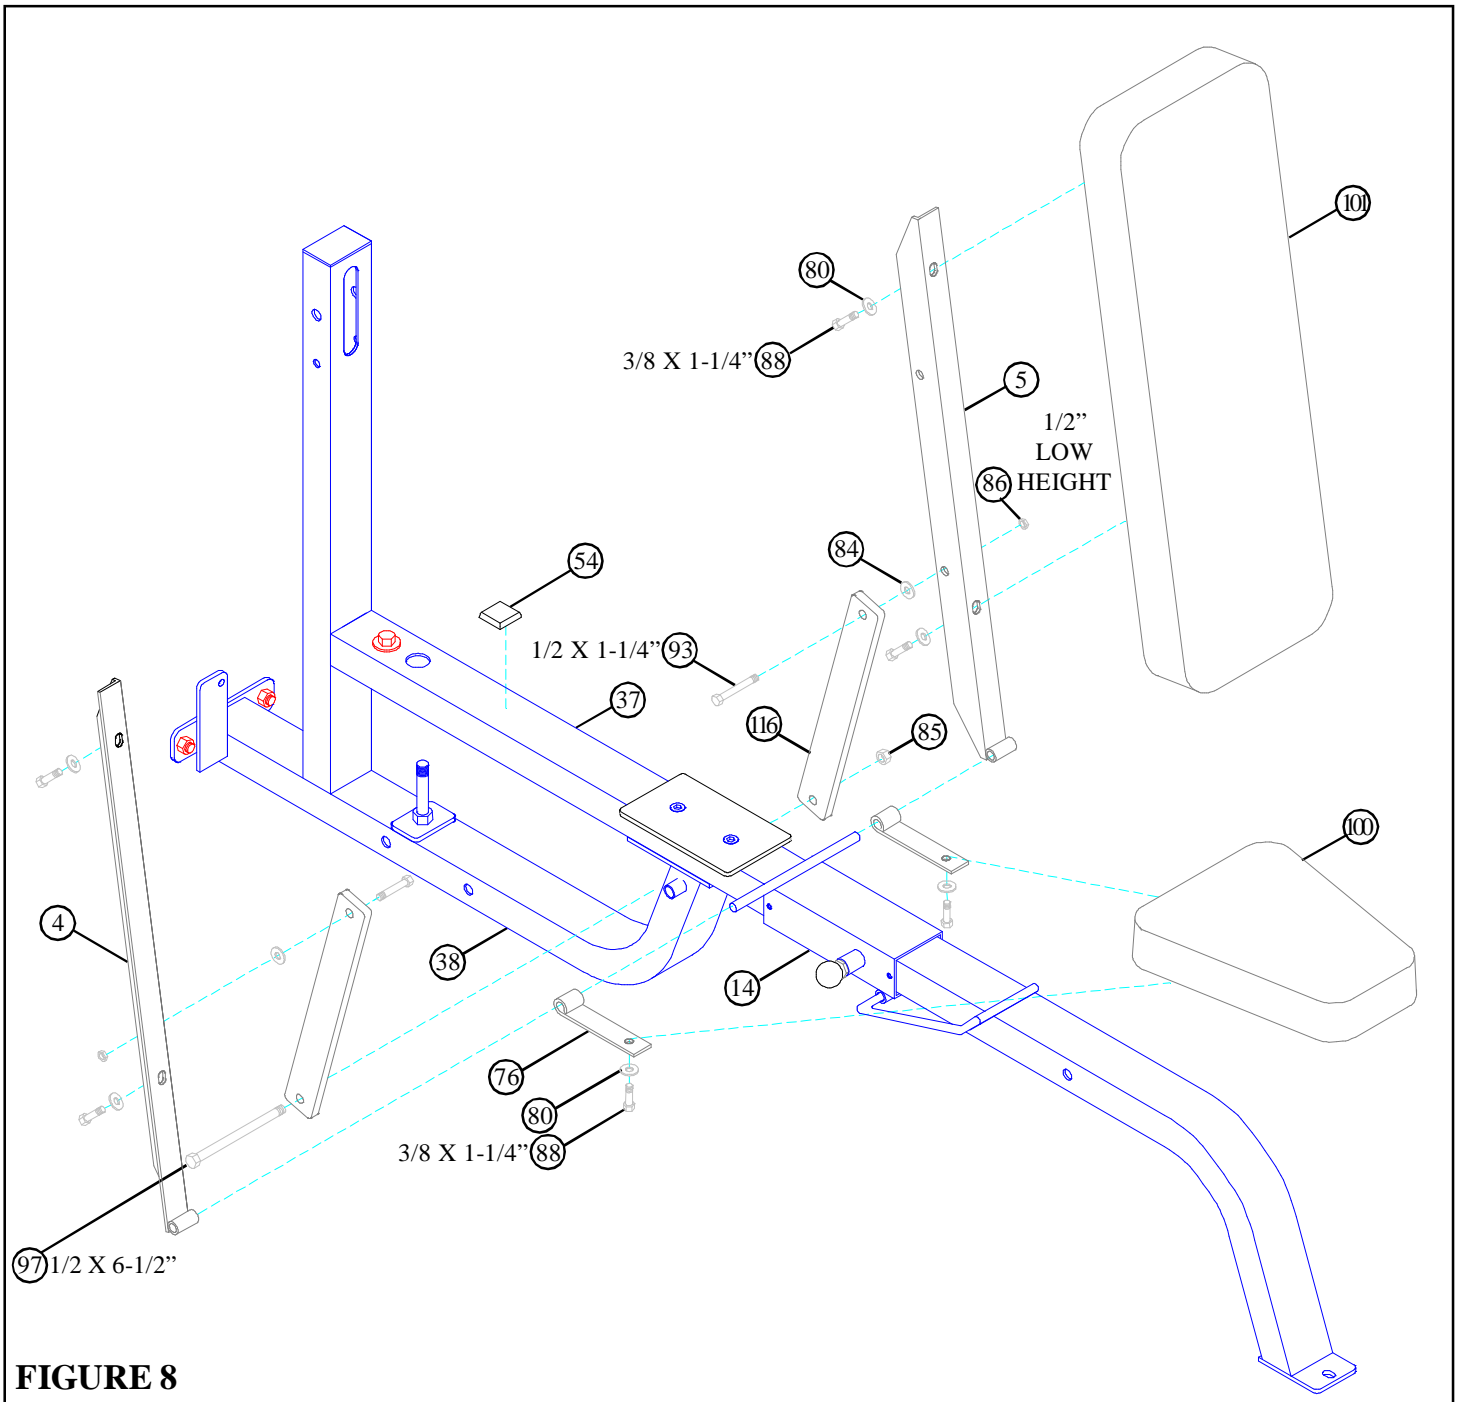

**FIGURE 7**
- **SECURELY** assemble the PRESS FRAME (37) to the PRESS BASE (38) using one 1/2" X 3" BOLT (94), two 3/8 X 3" COUNTERSUNK BOLTS (115), one 4-1/2" X 8" PLATE (57), two 1/2" WASHERS (84), two 3/8" WASHERS (80), one 1/2" LOCK NUT (85), and two 3/8" LOCK NUTS (82). **(NOTE: Make sure 3/8" countersunk bolts are facing down.** See FIGURE 7.